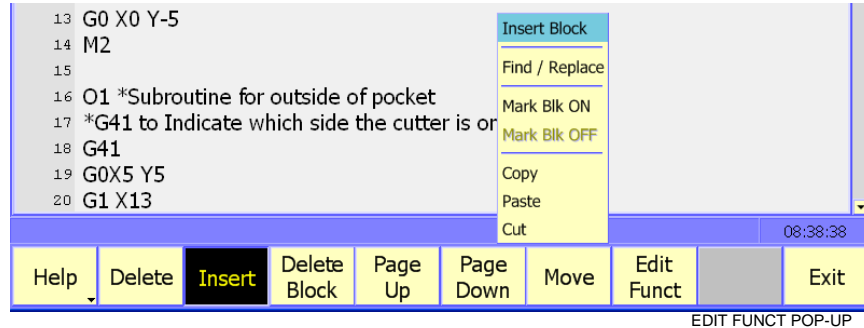

Figure 6-4, Edit Funct (F8) Pop-up Menu
Press **Edit Funct (F8)** to display the Edit Funct pop-up menu. Refer to **Figure 6-4** and **Table 6-3**.
2. Press **Edit Funct (F8)** to display the pop-up menu. Refer to **Figure 6-4, Edit Funct (F8) Pop-up Menu**.
1. In Edit Mode, press **Edit Funct (F8)** to display the pop-up menu. Refer to **Figure 6-4, Edit Funct (F8) Pop-up Menu**.